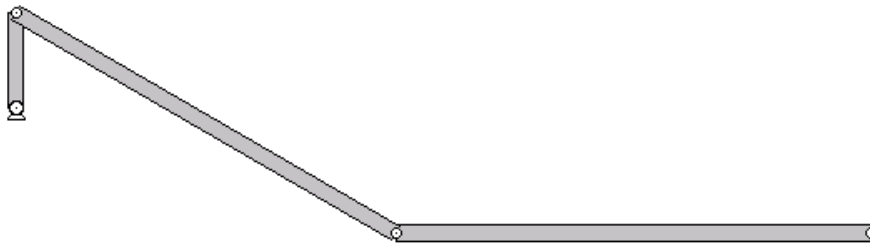

Figure 7
- Now, select each anchor and delete them (press the Delete Key on the computer key board to delete any entity). Final setup is shown in Figure 7.